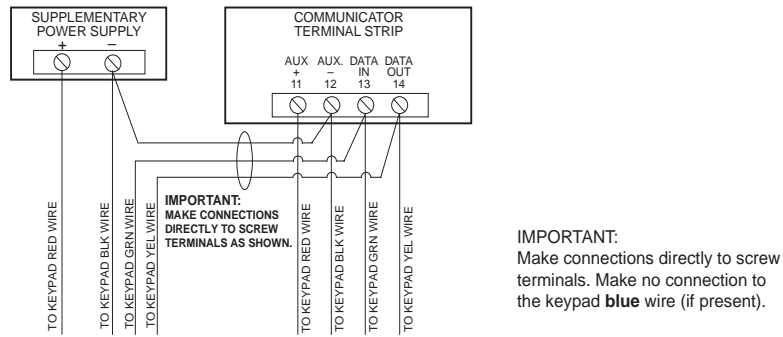

Figure 5-2: Using a Supplementary Power Supply for Keypads
Connect the additional keypads as shown in *Figure 5-2*, using the keypad wire colors shown. Be sure to observe the current ratings for the power supply used.
1. Make connections directly to the screw terminals as shown in *Figure 5-2*. Make no connection to the keypad blue wire (if present).